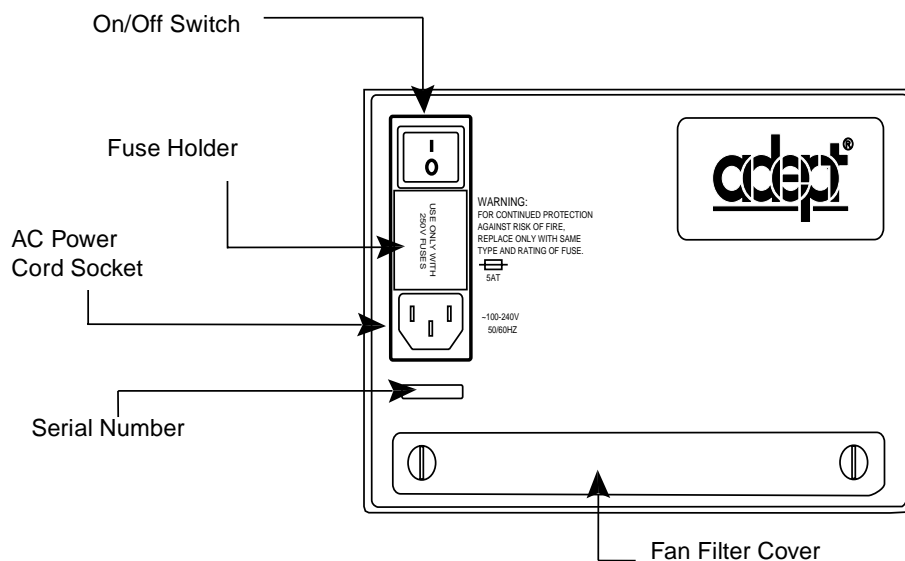

Figure 4-19. Adept MV Controller Power Entry Board
- Fuse holder containing the two incoming AC line fuses (The spare fuses are stored in the fuse holder; see Figure 4-19.)